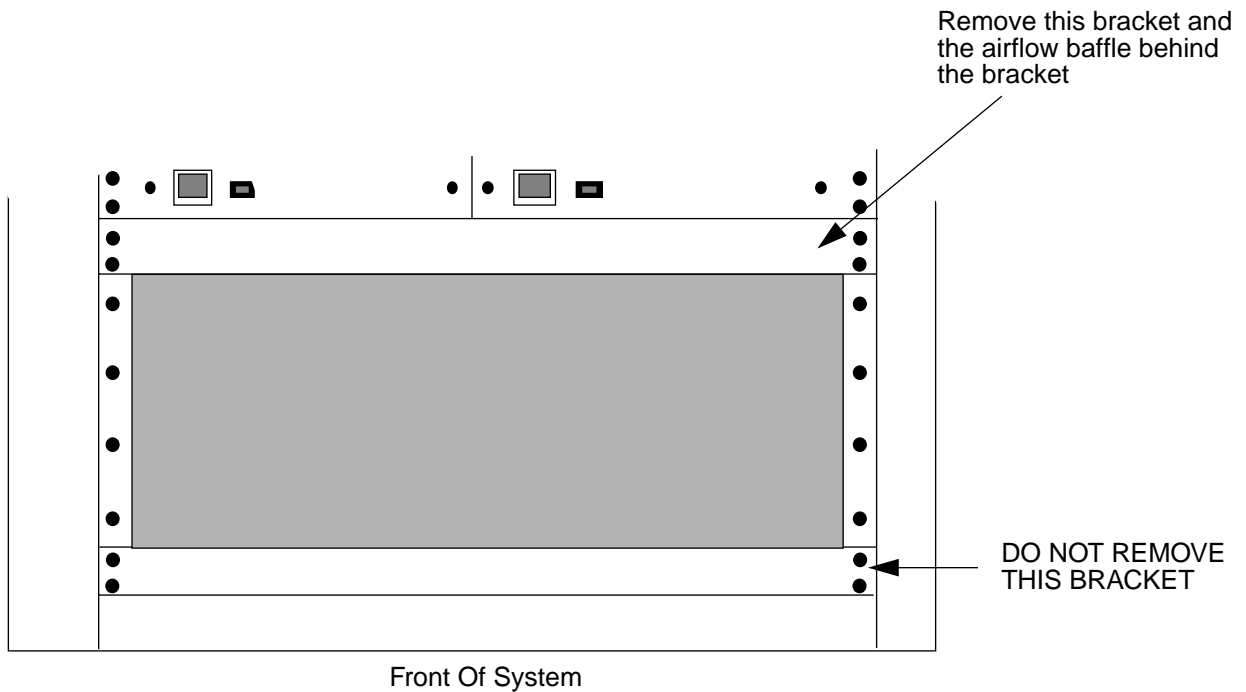

Figure 10: Removing The Airflow Baffle
9. Go to the front of the system and remove the bracket covering the airflow baffle and the airflow baffle. The baffle chamber is located above the power supplies shown in Figure 10